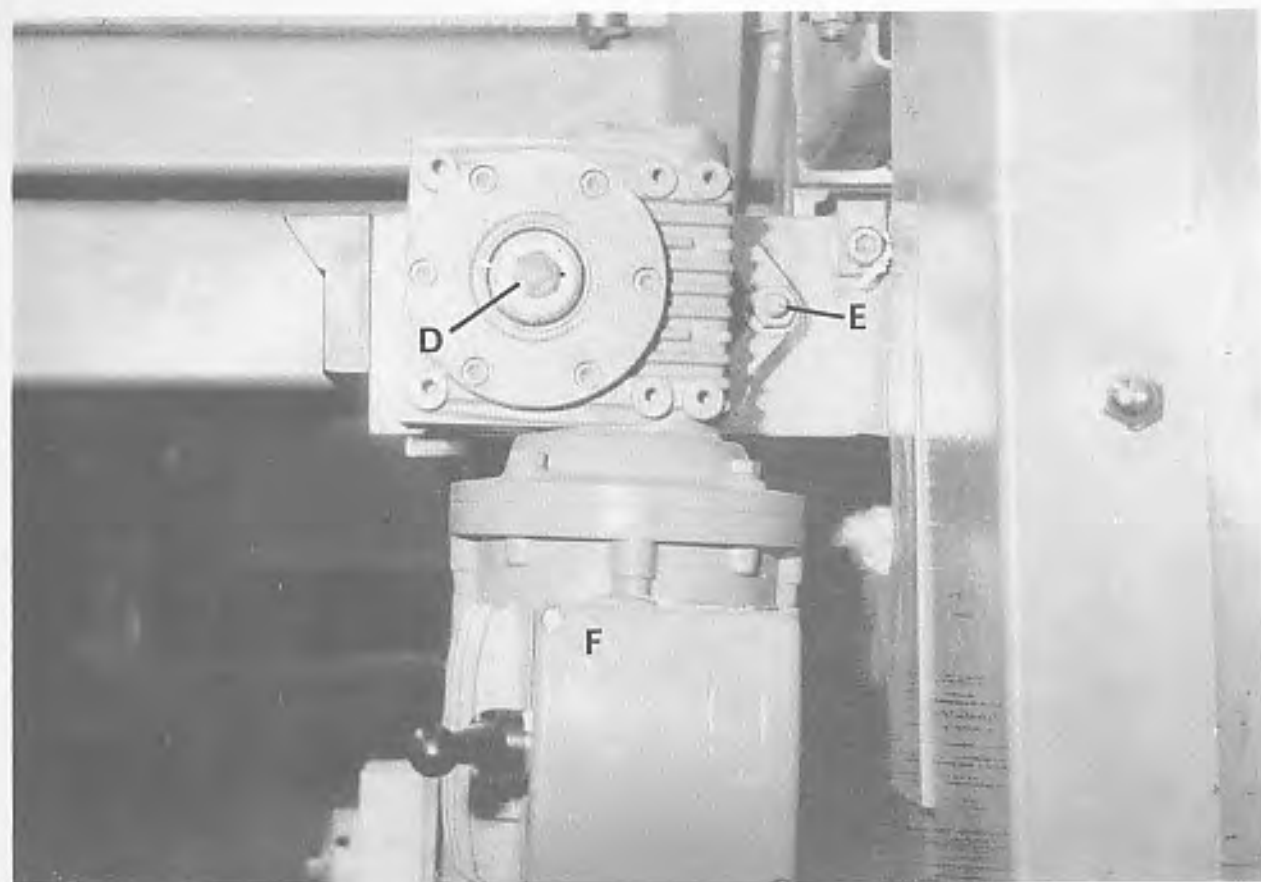

Fig 36
- 9) Remove M10 hexagon bolt and washer "D" FIG.36 (Rear of thickener table).
- 10) Remove M10 nut and washer "E" FIG.36 (Rear of thickener table).